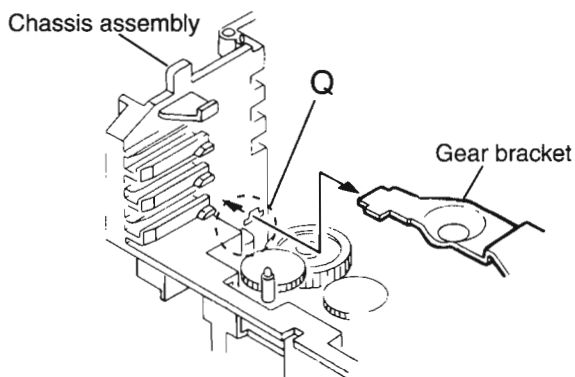

Fig.19
(See Fig.19).
(See Fig. 19).
4. Remove the belts respectively from the right and left actuator motor pulleys and pulley gears(See Fig. 19).